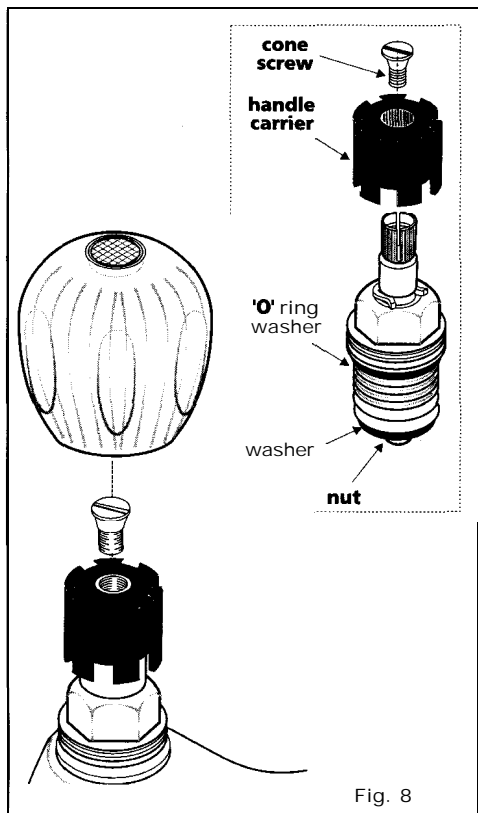

Fig. 8
FIT HANDLES (Figs. 8 & 9)
- To fit snap on handles tighten cone screw to secure handle carrier to spindle. When necessary, it is essential that the handle carrier is secured tightly to the spindle before the handle is fitted otherwise the handle, will be loose and damage could result (see Fig. 8).